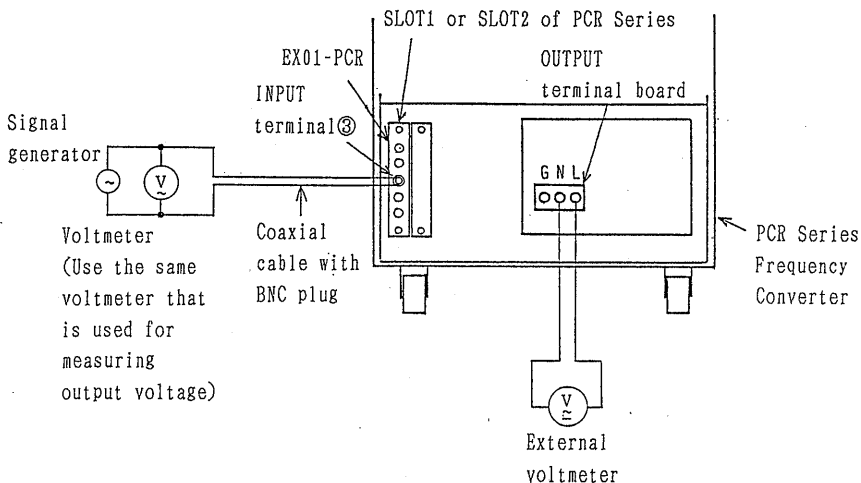

Figure 3-3
- 2) Connect the signal generator (or equivalent instrument) to the INPUT terminal ③ of the EX01-PCR, and the voltmeter to the OUTPUT terminal board of the PCR Series.
- See Figure 3-3. For the method of inserting the EX01-PCR into the PCR Series, see Section 3.3.2.